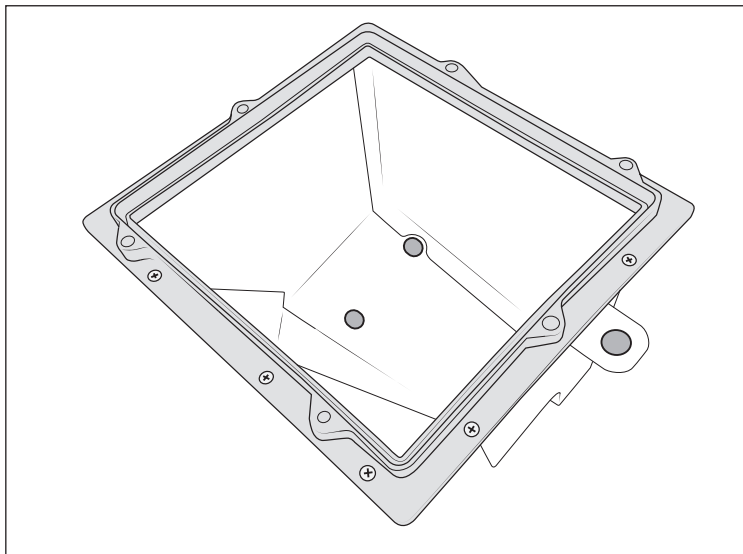

Figure 10
3. Using the 9 supplied screws, attach the adapter ring to the top flange of the airbox (fig. 10).
4. Install the three rubber grommets, saved earlier, into the lower airbox (fig 10).